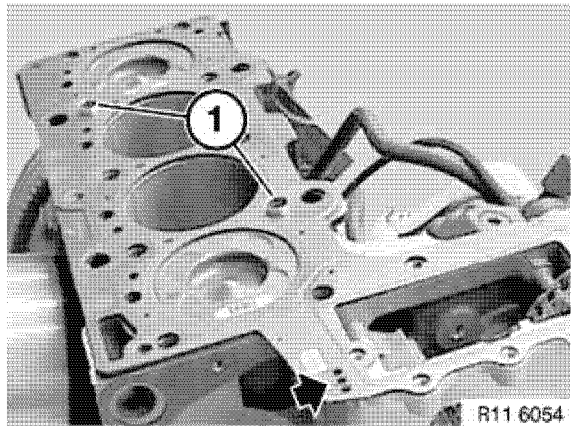

Figure 5-35
- Select the lesser measurement for all pistons and use the following chart to choose the correct gasket. Gasket thickness is identified by the number of holes (Arrow, **Figure 5-35**).